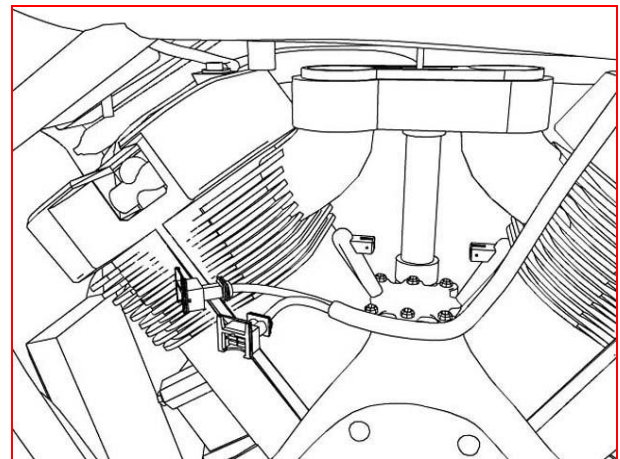

Figure 9
10. Feed factory injector harness out left side. (fig 9)